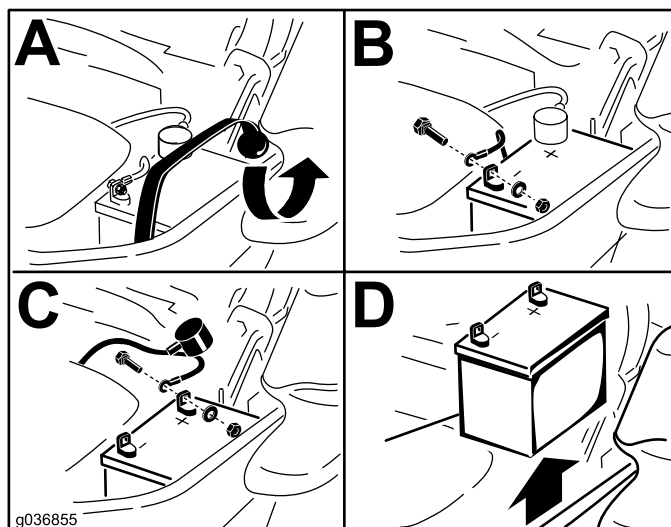

Figure 51
3. Remove the battery as shown in Figure 51.
1. Position the battery in the tray with the terminal posts opposite from the hydraulic tank (Figure 51).
4. Secure the cables with 2 bolts, 2 washers, and 2 locknuts (Figure 51).
6. Secure the battery with the rubber strap (Figure 51).